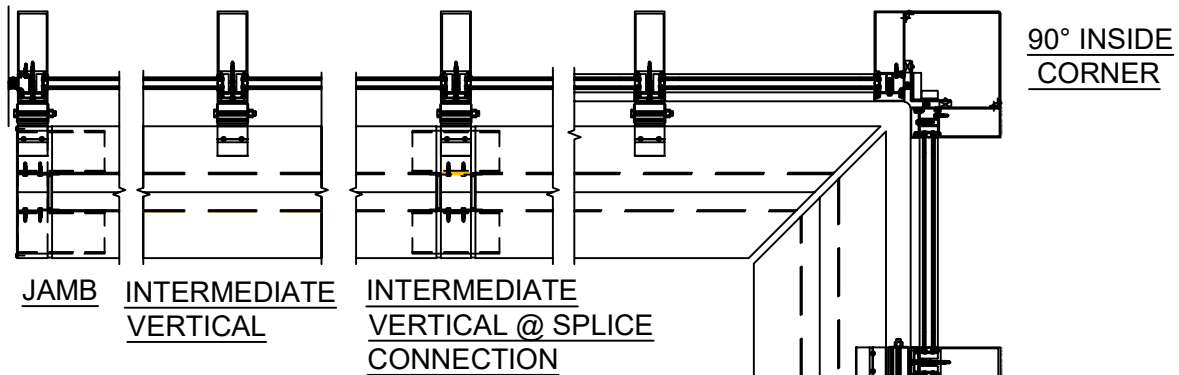
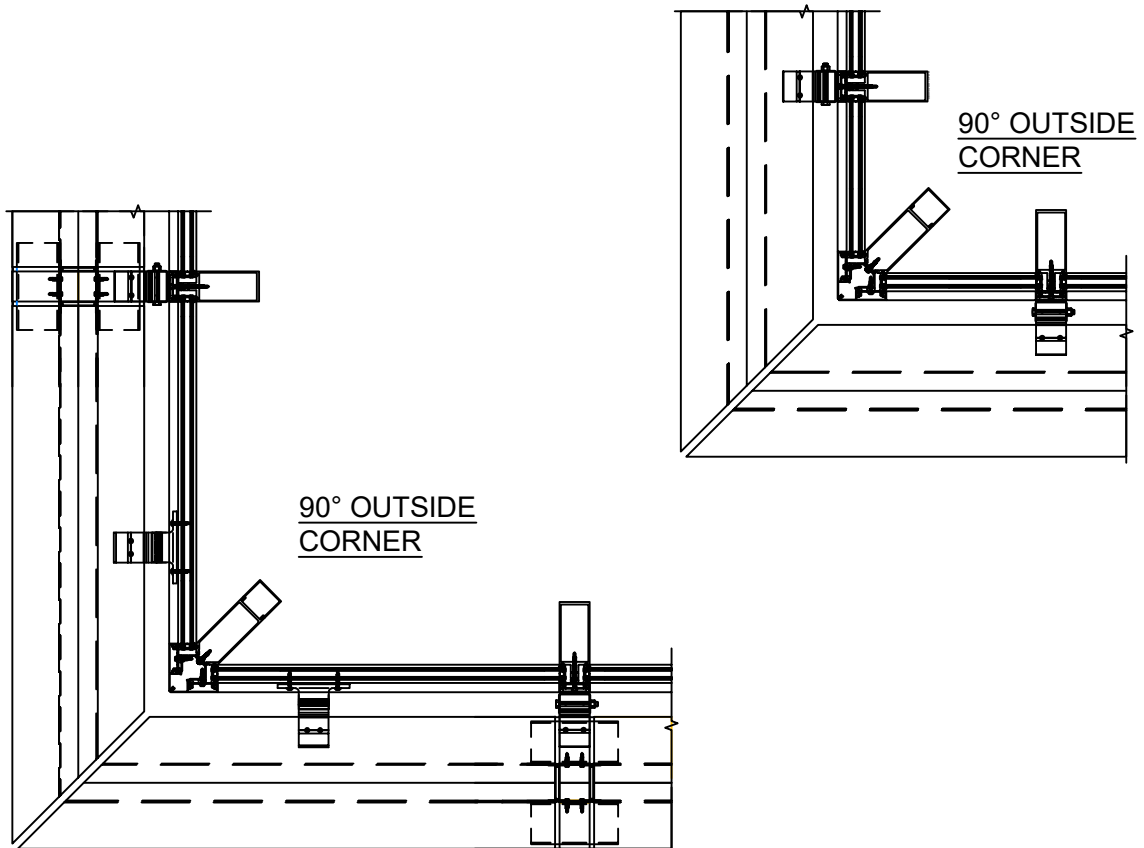

FIGURE 50
FIGURE 51
- 1) When installing the SolarEclipse Single Blade sun control system, the blades will only be attached to one mullion per span as shown below. There will be a splice connector installation at all jambs and every other vertical mullion. Corner must be engineered per project, but in most installation the adjacent mullion will require an anchor attached to the blade and blade will cantilever across the corner with a joint at each corner. (SEE FIGURE 50) In the case of an long span, a SS-207 anchor may be attached to the horizontal on Reliance and Reliance -TC Type I & II curtain walls to anchor the blade to the wall. (SEE FIGURE 51)